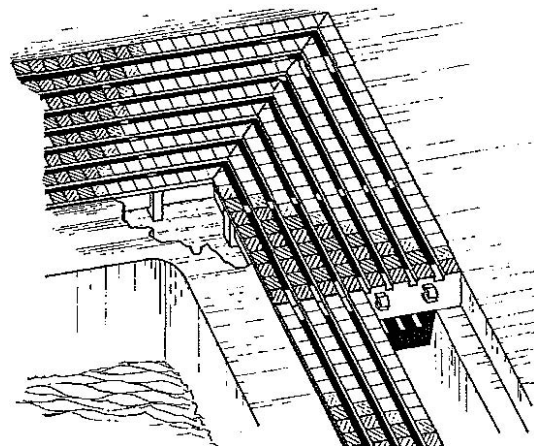

**FIGURE 3**
- Fasten both sides at each end of the access section. For access, remove the fasteners and lift out the section of grate (**Figure 3**).